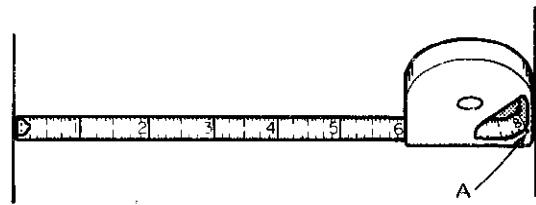

Fig. 2-10 Push-pull rule with pointer (A) for direct reading of inside measurement.
3. Add the width of the tape case (usually two inches) to the indicated reading. Another type of pocket rule allows direct reading of the inside measurement by a small red pointer, A, figure 2-10.